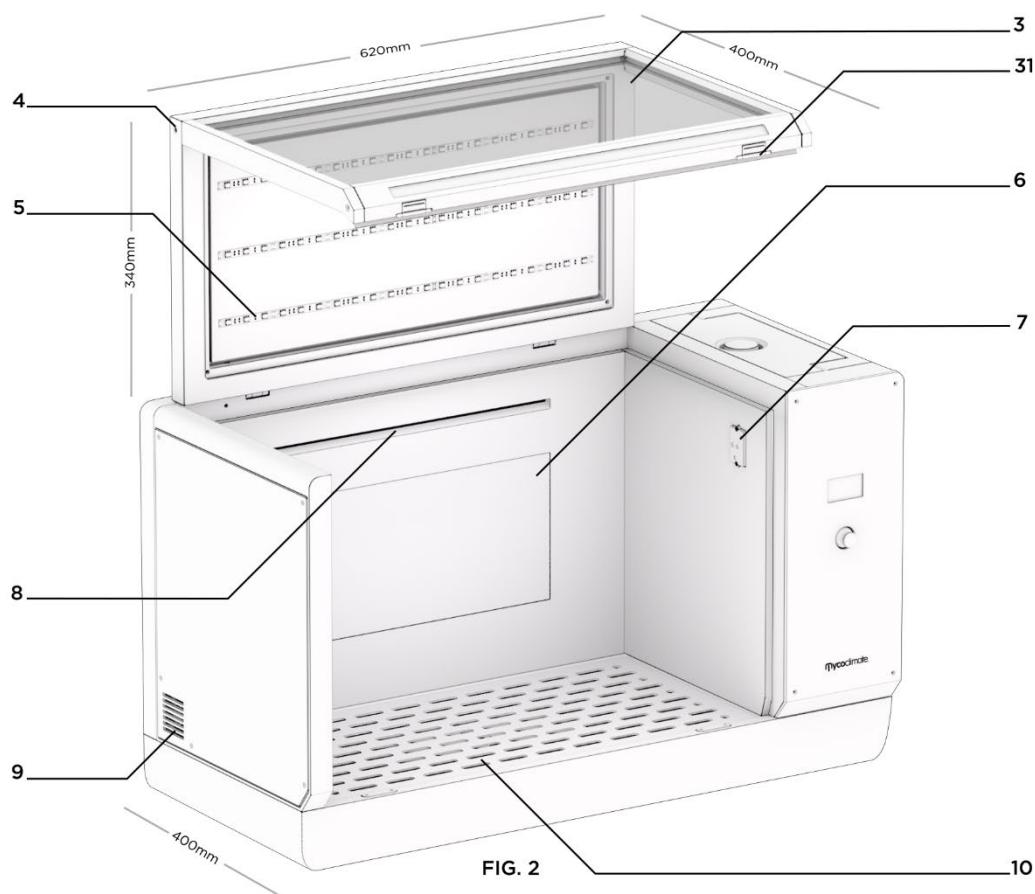

FIG. 2
**Figure 2** is a three quarter view from the front of the chamber illustrating how the hinged door of the chamber opens and some internal chamber components.